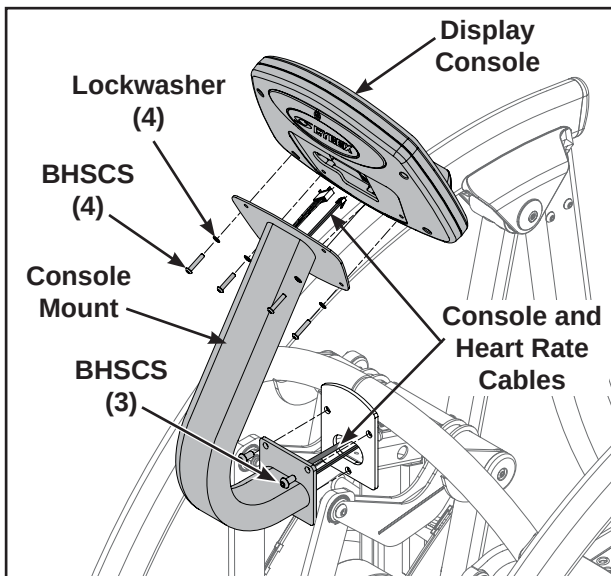

Figure 9
- A. Using a 5/32" Allen wrench, remove the four BHSCS with lock washers securing the display console to the console mount. See Figure 9.
- B. Disconnect the console and heart rate cables from the display console. See Figure 9.
- C. Using a 7/32" Allen wrench remove the three BHSCS securing the console mount to the frame. See Figure 9.